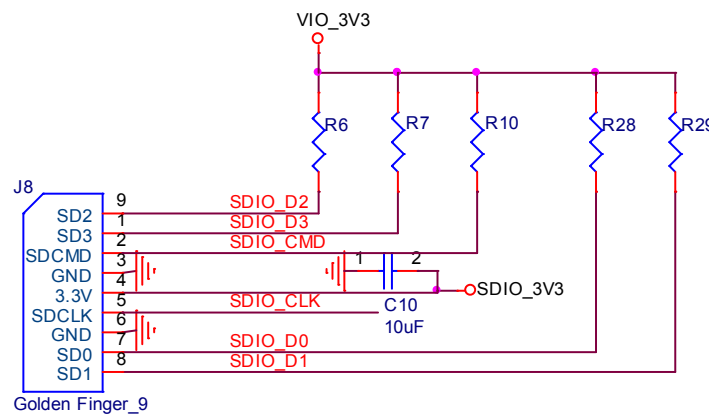

Figure2. Wi-Fi verification connection interface to Host SDIO
- ❖ Refer to Figure2 SDIO pin definition connects the J8 interface of AP5256 evaluation board to Host SDIO control interface.